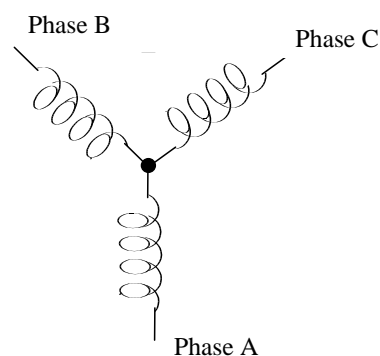

Figure 1.1: Three-Phase Wye Winding
- The wye connection is so called because when you look at the phase relationships and the winding relationships between the phases it looks like a wye (Y). Fig. 1.1 depicts the winding relationships for a wye-connected service. In a wye service the neutral (or center point of the wye) is typically grounded. This leads to common voltages of 208/120 and 480/277 (where the first number represents the phase-to-phase voltage and the second number represents the phase-to-ground voltage).
- Usually a wye-connected service will have four wires; three wires for the phases and one for the neutral. The three-phase wires connect to the three phases (as shown in Fig. 1.1). The neutral wire is typically tied to the ground or center point of the wye (refer to Figure 1.1).